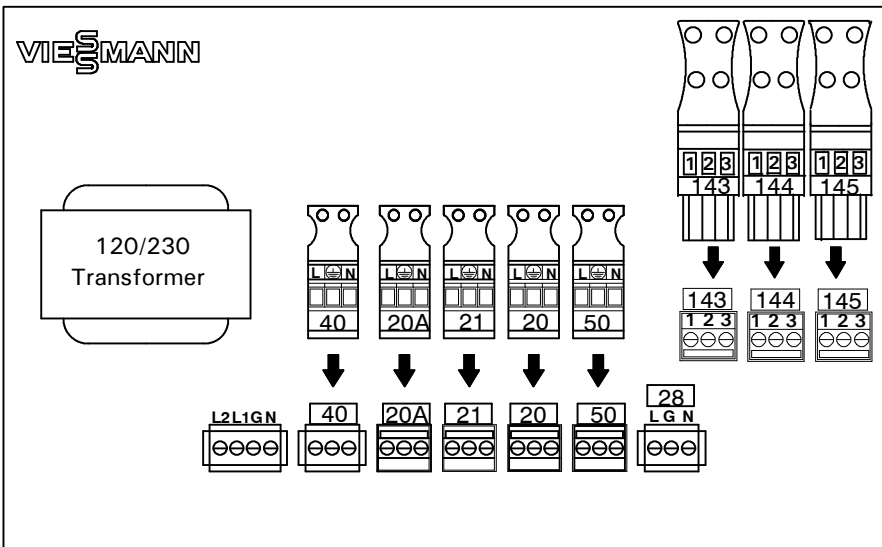

Fig. 5
3. Make connection to plugs **20**, **20A***, **21***, **28*** and **50** in the Power/Pump module as required (Fig. 5).